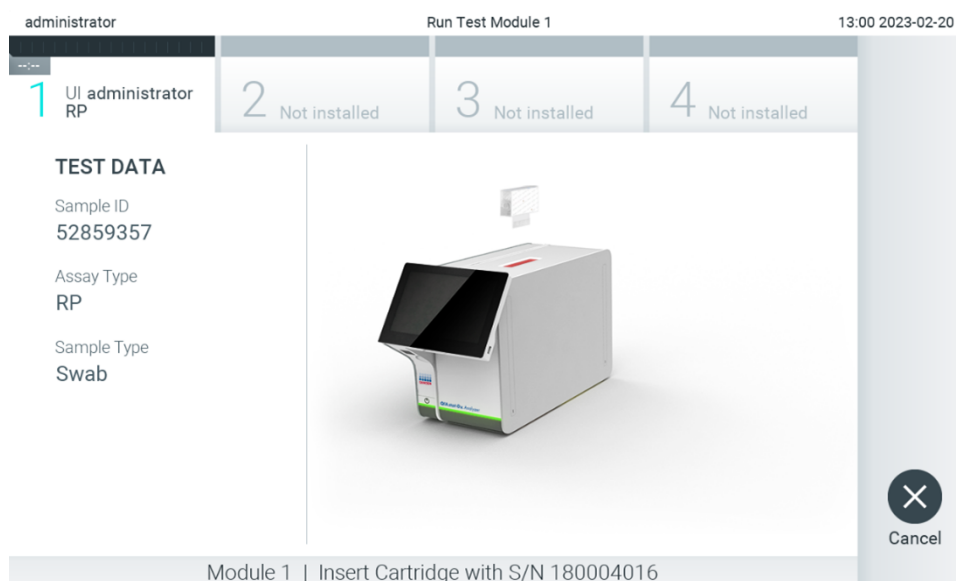

Figure 27. Inserting QIAstat-Dx assay cartridge into QIAstat-Dx Analyzer 2.0.
7. Make sure that both sample lids of the swab port and main port of the QIAstat-Dx assay cartridge are firmly closed. When the cartridge entrance port on the top of QIAstat-Dx Analyzer 2.0 automatically opens, insert the QIAstat-Dx assay cartridge with the bar code facing to the left and the reaction chambers facing down (Figure 27).